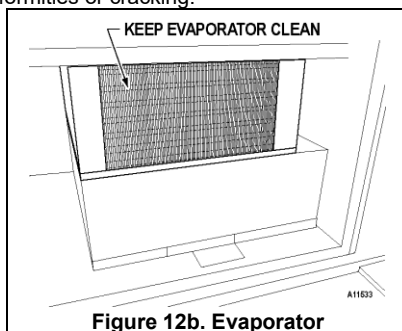

Figure 12b. Evaporator
- Is the evaporator fan working? To check if the fan is running take a small piece of paper in front of the evaporator coil and see if the evaporator fan will draw the paper. See Figure 12b on page 34.